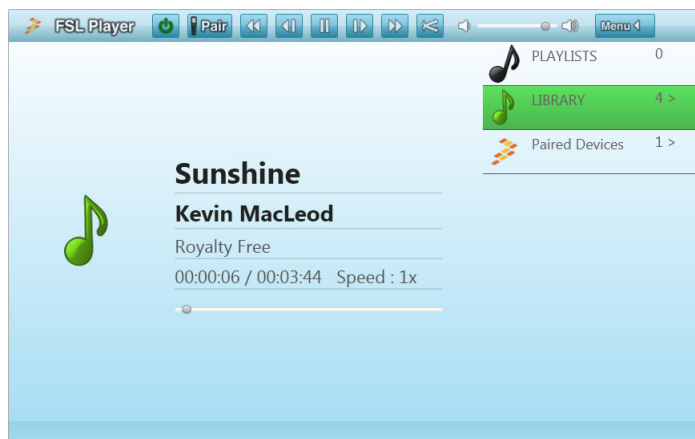

Figure 17. Audio Player Showing Library Menu
14. Click on Menu in the MP3/Audio Player toolbar or press SW12 on the 1323x-RCM to display an application menu in the MP3/Audio Player GUI that displays current play lists and tracks in the library as shown in Figure 17. From the 1323x-RCM, use buttons SW17, SW22, SW23, SW24, and SW29 to perform the menu navigation actions of Up, Left, Down, Right and OK/Confirm respectively. Click on Menu or press SW12 again to toggle the play list menu off.